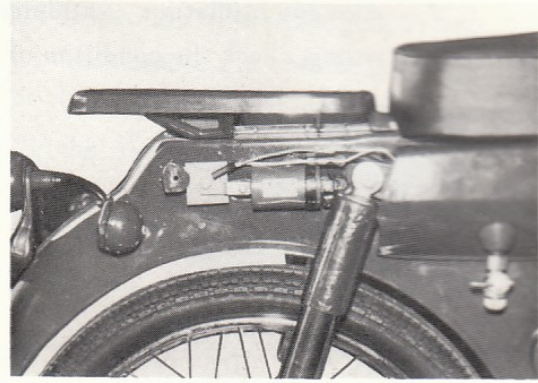

Fig. 5-4
If no spark jumps the plug gap or if the spark is weak, check the ignition coil as well as the contact breaker. The ignition coil is enclosed by the side cover (R) of the frame back. (Fig. 5-4)